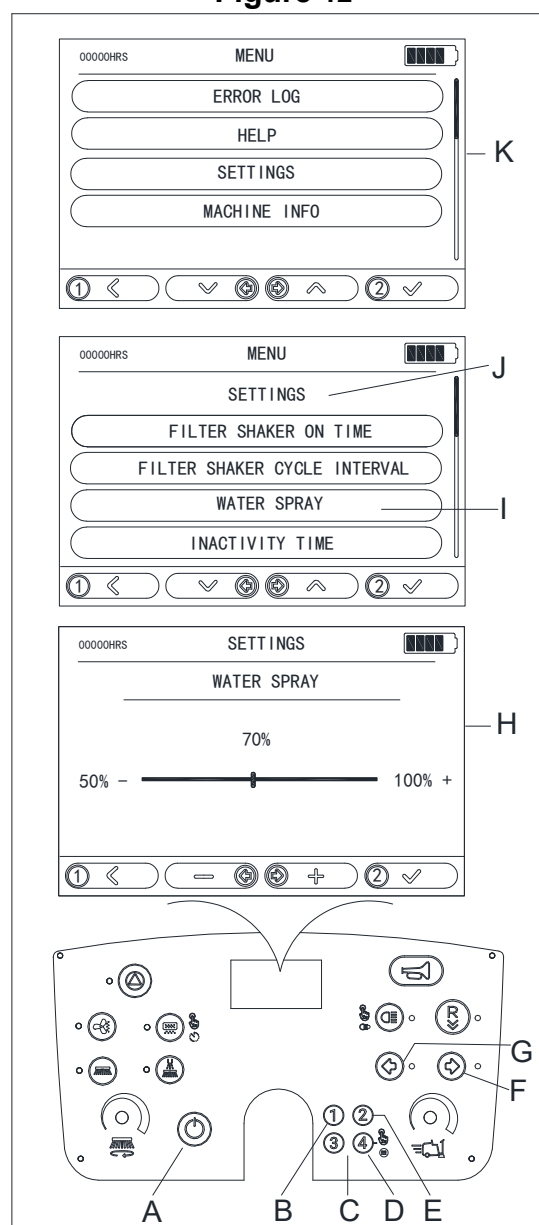

Figure 13
1. Press the power button (A, Figure 13).
2. Use the 4-digit pin pad (C, Figure 13) to enter the password. The default password is 1234.
3. After successfully logging in, press and hold ④ button (D, Figure 13) for 2 seconds to enter the MENU interface (K, Figure 13).
4. In the MENU interface, press ① button (B, Figure 13) to go back to the previous menu, press indicator left button (G, Figure 13) to scroll down, press indicator right button (F, Figure 13) to scroll up, select "SETTINGS", then press ② button (E, Figure 13) to confirm the selection and enter the SETTINGS interface (J, Figure 13).
5. In the SETTINGS interface (J, Figure 13), select (I, Figure 13) WATER SPRAY to enter the WATER SPRAY settings interface (H, Figure 13).
6. Press indicator left button (G, Figure 13) to decrease the spray speed, press indicator right (F, Figure 13) to increase the spray speed, and adjust to the desired setting, then press ② button (E, Figure 13) to update the change.